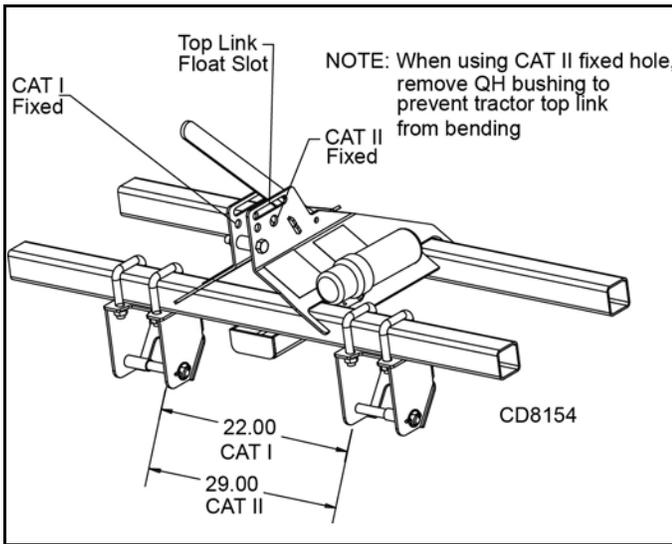
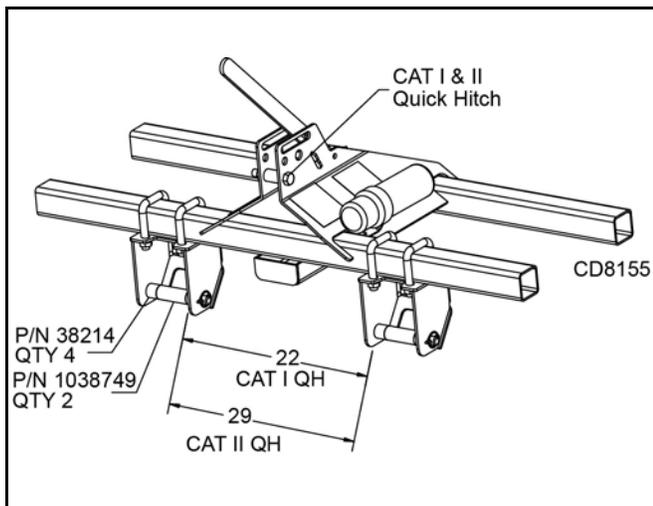

Figure 5. Hitch
Figure 6. Quick Hitch - CAT I and CAT II
1. Attach the tractor's lower lift arms to the seeder and secure with mounting pins and klik pins. See Figure 5 and Figure 6.
2. Attach the tractor's top link to the mast plates of the seeder. For controlled depth of tillage, use the fixed-pin location above the quick hitch bushing. See Figure 5 and Figure 6.
NOTE: The seeder can be operated in a float or fixed 3-point hitch position. For beginning usage, the float position is recommended. See Figure 5.